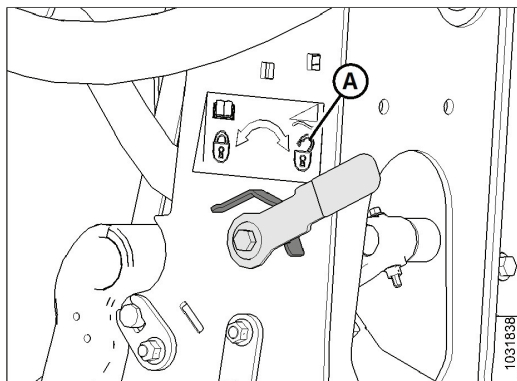

Figure 3: Float Unlocked - Left Side Shown
- b. On the side that you are adjusting, move spring handle (A) to the lower (UNLOCK) position. Keep the opposite wing locked. You should hear the lock disengage. If not, use multi-tool (B) to rotate the mechanism so that the lock disengages.
- c. On both sides of the float module, place the header float locks (shown in Figure 3) in the locked position.